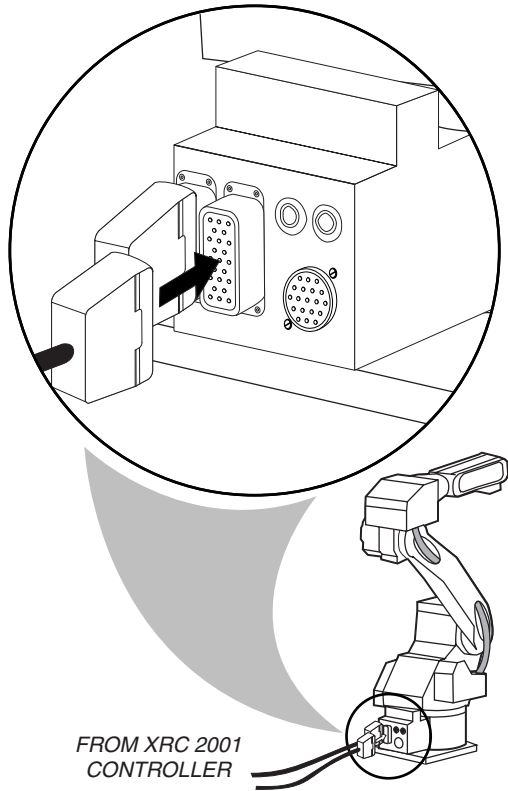

Figure 15 Connecting Robot to XRC 2001 Controller
3. Carefully engaging connectors, connect two cables (labeled 1BC and 2BC) to 1BC and 2BC connections on back of robot (see Figure 15).